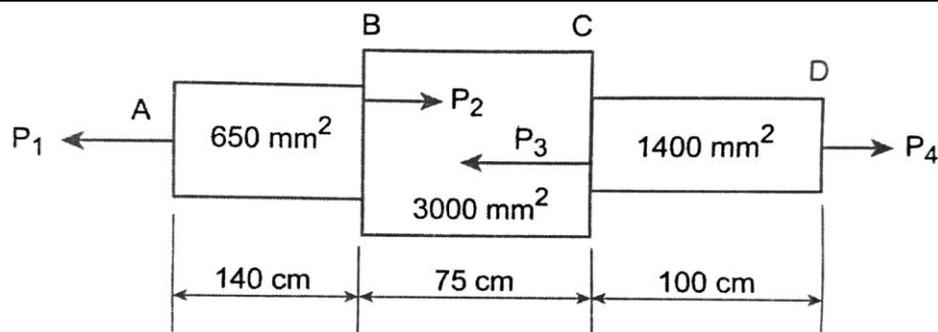

Figure-5
- 7 A bar is subjected to point load as shown in **Figure-5**. Calculate the force P_2 and the total elongation of the bar. Take the value of load acting $P_1 = 60 \text{ kN}$, $P_3 = 500 \text{ kN}$ and $P_4 = 150 \text{ kN}$ and modulus of elasticity is $2.1 \times 10^5 \text{ N/mm}^2$.